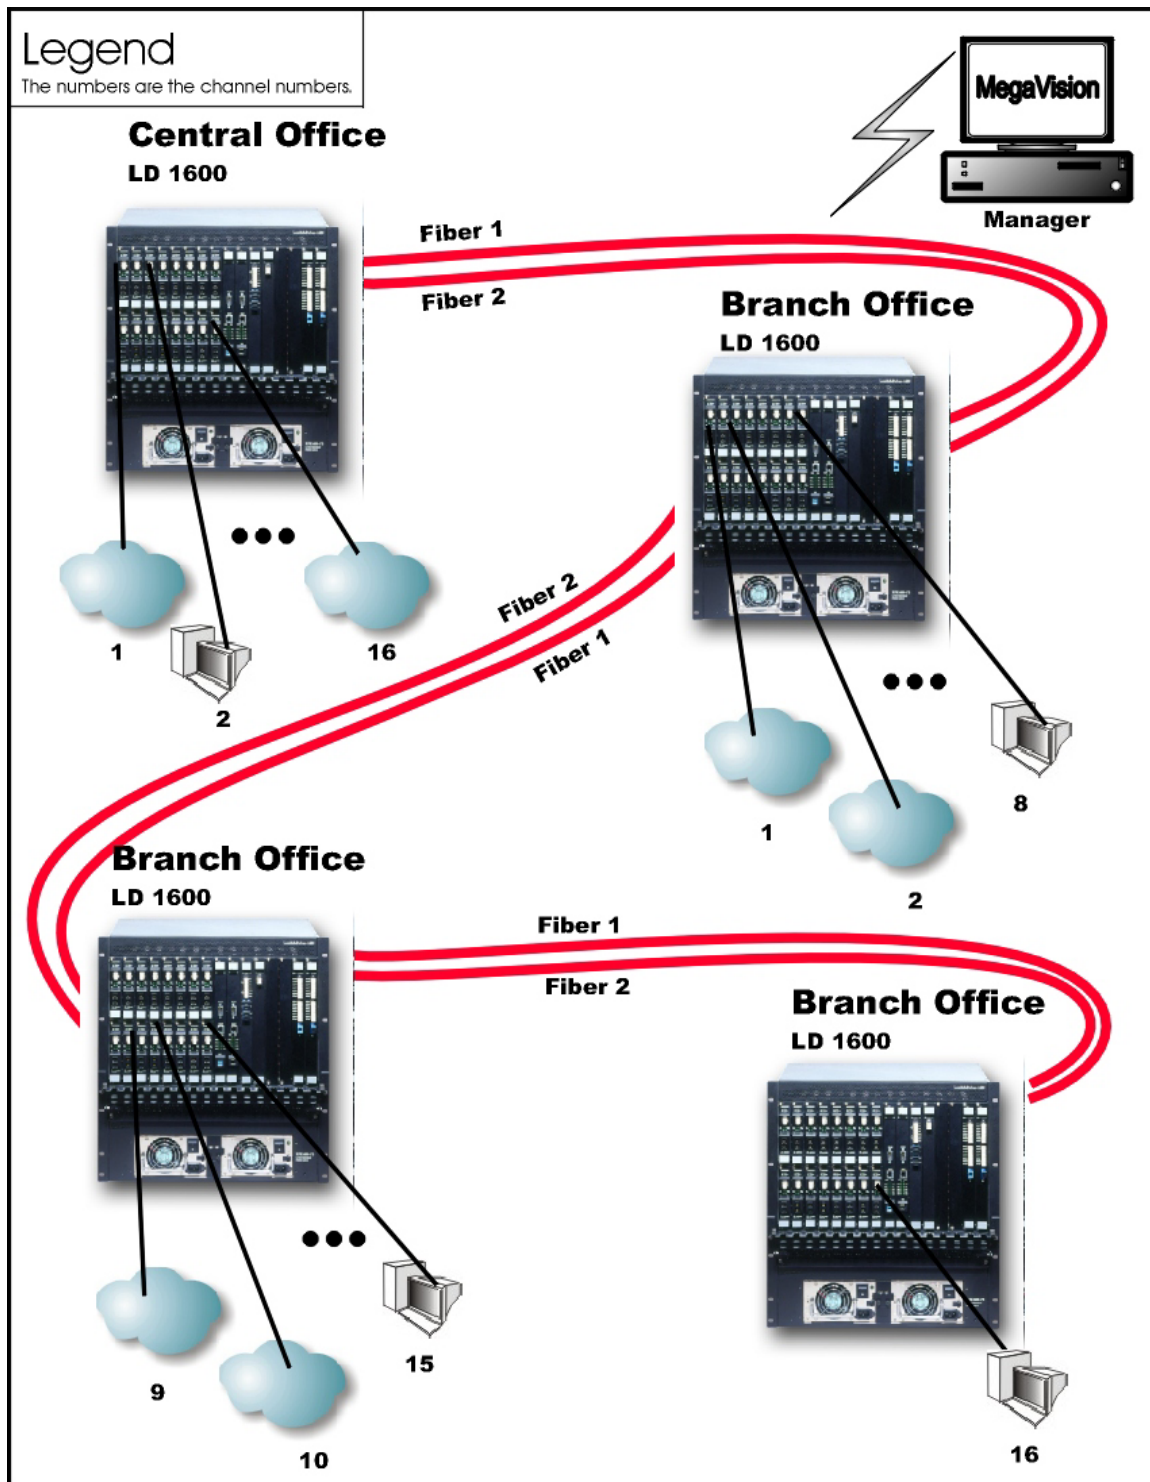

Figure 27: Multipoint with up to 16 Full-Duplex Channels
In Regular Multipoint topology (example shown in *Figure 27*), up to 16 full-duplex channels can be created across the network. This means that up to 32 access-equipment units (e.g., LANs, PCs, etc.) can be interconnected with this network topology – two per channel. Note that all channels run from the Branch Office (BO) LD1600s to the Central Office (CO) LD1600, i.e., no channels exist between the BOs.